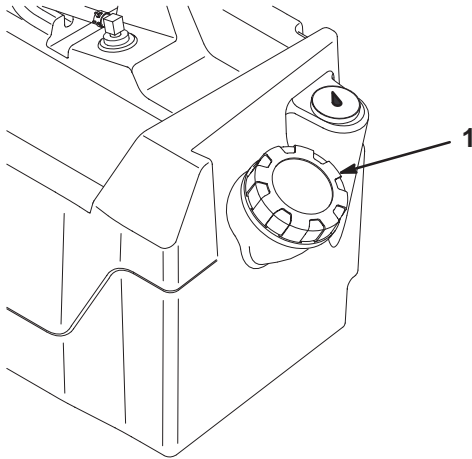

Figure 3
2. Clean the area around the fuel tank cap (Fig. 3).